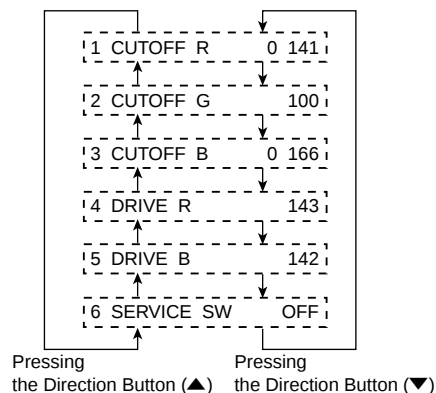

Fig. 3-4
- The items of the W/B MENU changes as shown in Fig. 3-4 by pressing the Direction Button (▼ or ▲).